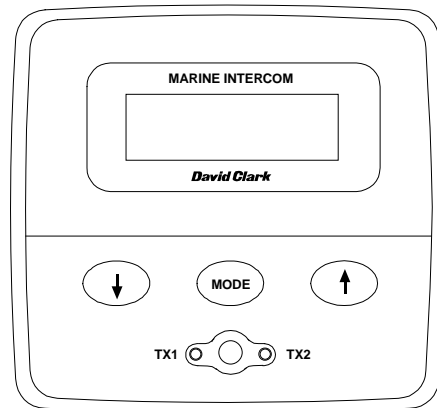

Figure 5: Panel Display Control
- q U9810PD Series 9800 Intercom System Panel Display (40879G-01) (**Figure 5**)